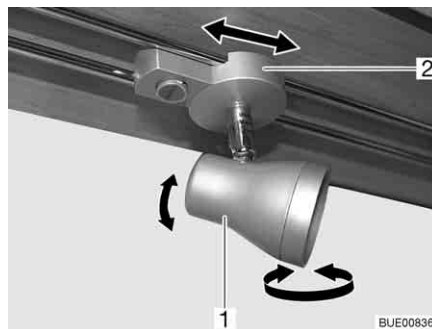

Fig. 58 Spotlight
*Turning:* ■ Grasp the housing (Fig. 58,1) and turn it.
- Grasp the holder (Fig. 58,2).